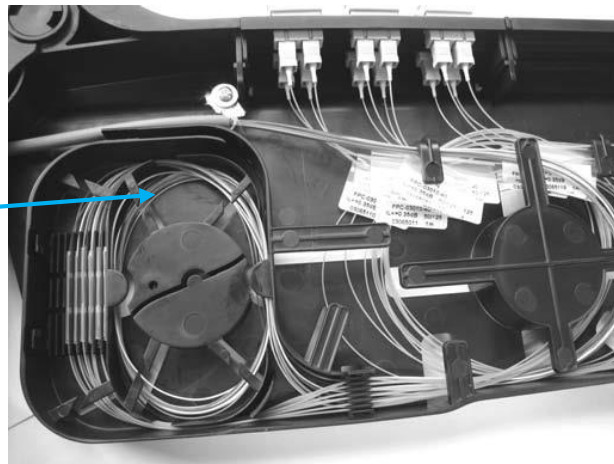

Fig.9
- (iv) Route fibers through cable management section to splice management section (Fig.9)